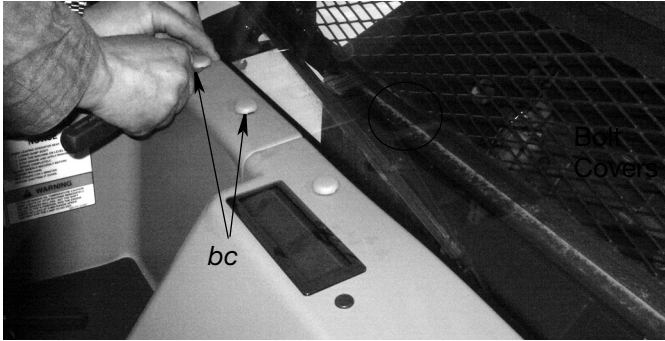

FIG. 75
13. Remove bolt covers (*bc*), bolts and washers from cab cover panel located on the right side of the cab, next to the driver's seat as shown in FIG. 75. Remove the convenience center from its installation location to access the electric connections.
14. Remove bolt covers (*bc*), bolts and washers (*w*) from the panel behind the driver's seat as shown in FIG. 75. Keep washers (*w*). They will be used for GLC2200 installation.
- e. Adjust bracket fasteners (g) (installed in Step) for installation in the cab; matching the holes in the brackets to the location of the bolt holes available after removing the bolt cover and bolts in Step 14 (FIG. 75, page 40).
2. Install the assembled bracket and GLC2200 to the mounting holes exposed in Step 14 (FIG. 75, page 40). Use bolts (b) and washer (c) and washer (w) to secure bracket fasteners (g) to the holes.